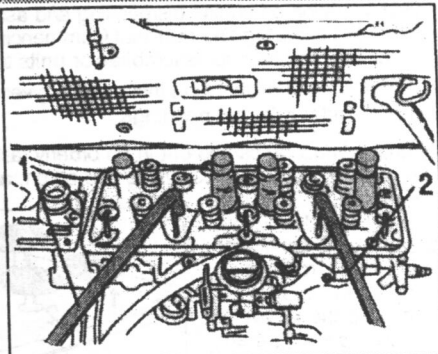
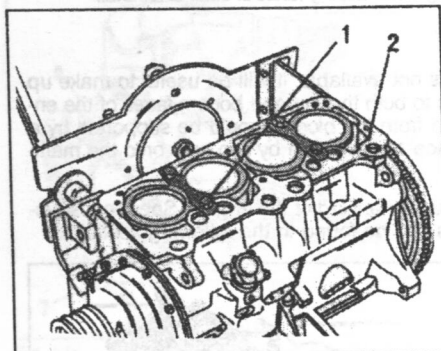

Fig. 1.17. — Lifting off the cylinder head. Use two lifting bars (1 and 2) as shown.
Fig. 1.18. — Cylinder liners can be clamped in position with two clamps (1) as shown. Bolt the clamps to the block (2).
- The cylinder head should be lifted off as shown in Fig. 1.17. Insert two iron bars (1) and (2) as shown and lift the head with the bars. This will break the seal between cylinder head and cylinder liners. Immediately secure the cylinder liners in position as shown in Fig. 1.18. Each pair of cylinder liners must be secured with suitable clamps and bolt.